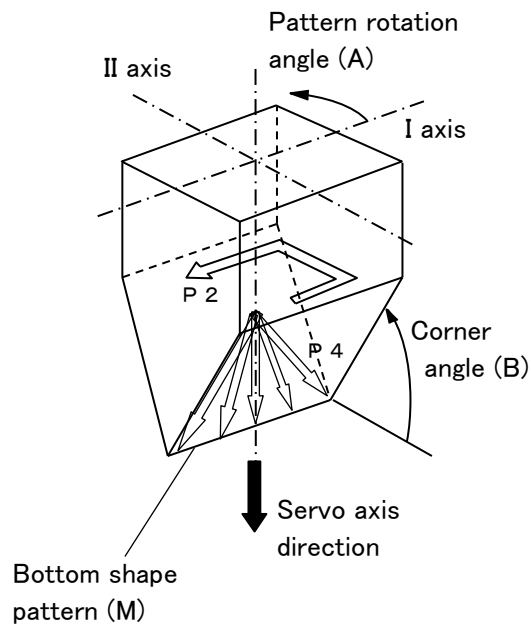

Fig. 17.2 Drill-shape machining
- (a) The figure 17.2 shows an example when the pattern (P) is 2222.